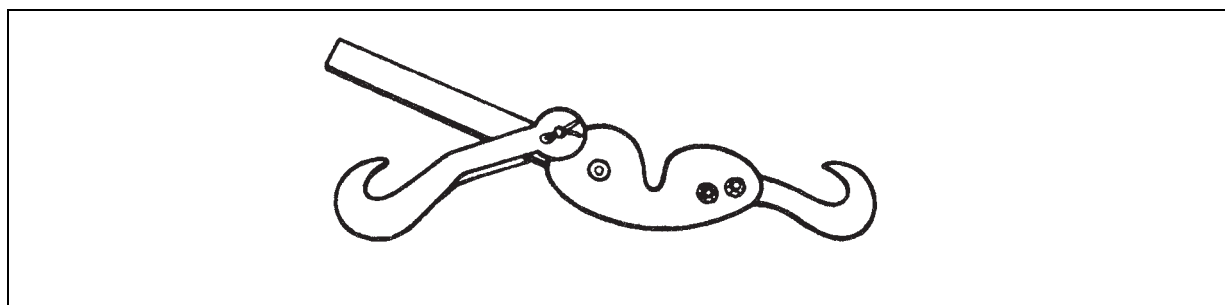

Figure 8-37. Load Binder
- **Load Binder.** The load binder (figure 8-37) is a locking device which is used to tighten and secure lashing straps. Each binder consists of two body plates which attach at one end to a short hook and at the other end to a handle that holds a pivoting long hook. Use the following